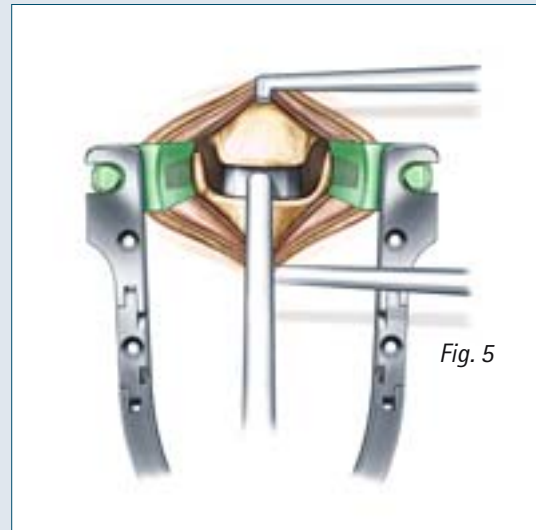

Fig. 5
- The correct implant size can be established using the trial implants (Fig. 5).